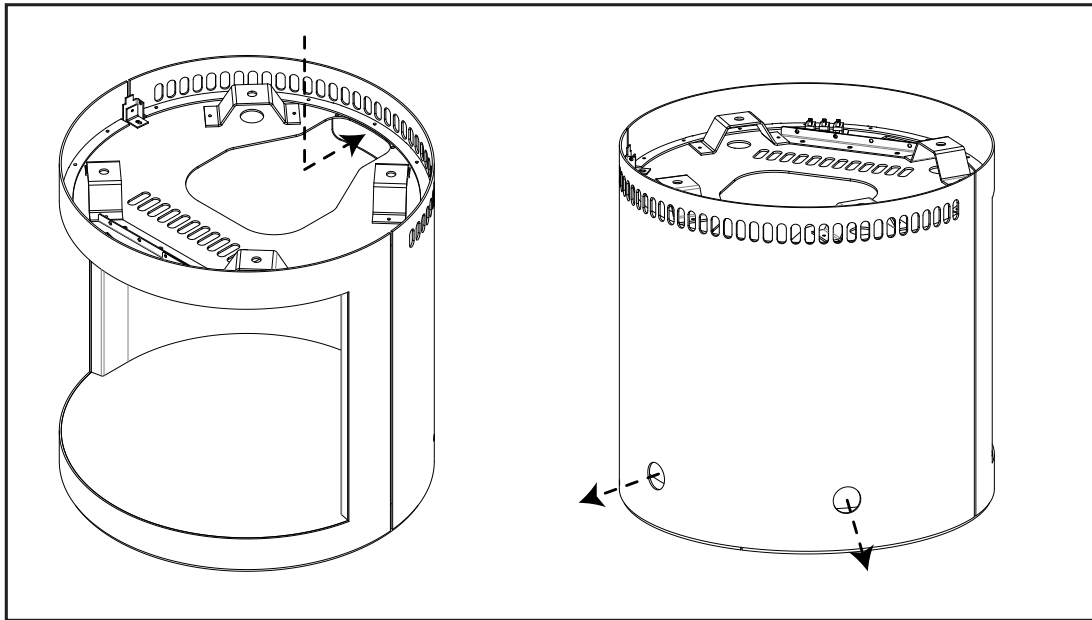

Figure 96: Wood Pedestal Gas & Electrical Rerouting
The wood pedestal has a knockout located at the top of its back wall that will allow the gas and electrical connection to pass through. This knockout allows access to the hollow back wall of the pedestal, which then leads to two (2) openings at the back of the pedestal (see Figure 96).